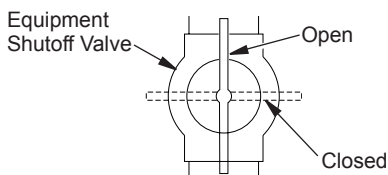

Figure 34 - Equipment Shutoff Valve
1. Close equipment shutoff valve (see Figure 34).
1. Open equipment shutoff valve (see Figure 34).